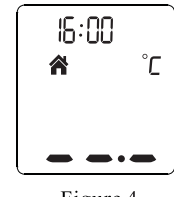

Figure 4
- To measure object temperature: Press the **MODE** button to turn on the thermometer, you can take the object temperature after hearing two beep sounds. (see Figure 4)